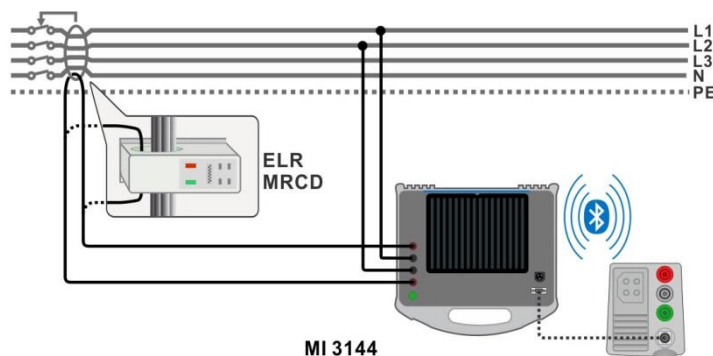

Figure 7.80: ELR Current Injection Test / Combination Time Test connection
- › Connect test leads to the object under test. See **Figure 7.80**.
See **Figure 7.80**.
- › Connect test leads to the object under test. See **Figure 7.80**. Refer to **MI 3144 Euro Z 800 V Instruction manual** for detailed information.